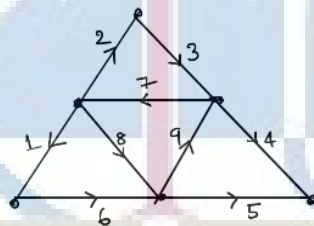

Figure 7: Figure for question 14 (b).
- (b) For the graph shown in Fig. 7, write the cut-set (KCL) equations for the following cut-sets:  $\{1, 6\}$ ,  $\{1, 2, 7, 8\}$ ,  $\{5, 6, 8, 9\}$  and  $\{2, 5, 7, 9\}$ . Will this set of equations form an independent set of equations? If not why? (6)